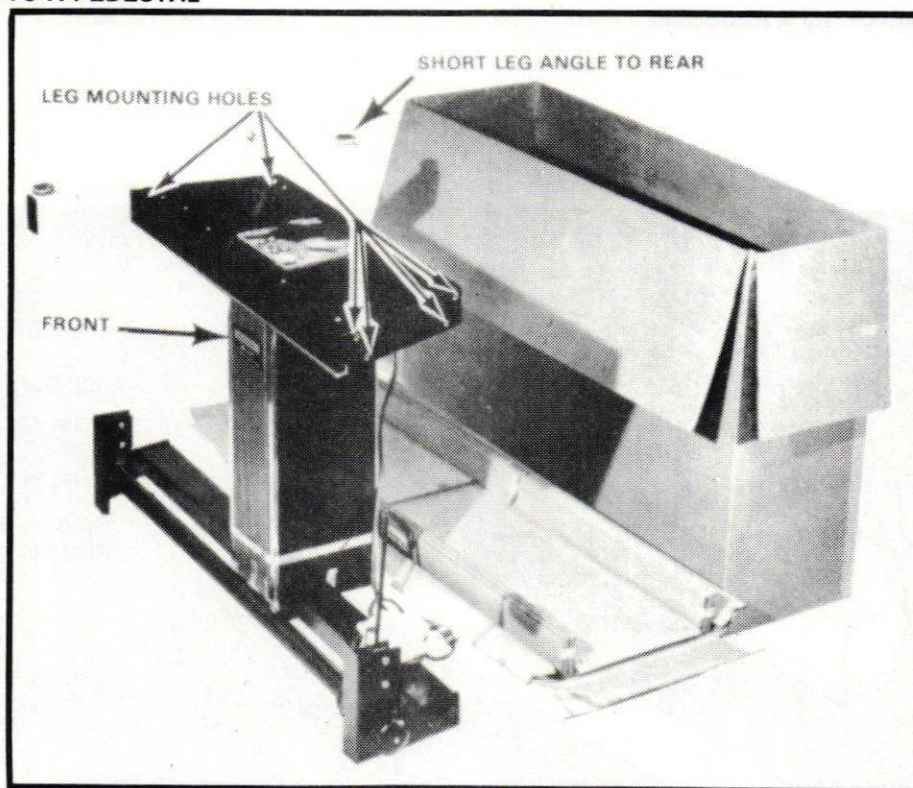

Figure E-1. Drafting Base Assembly.
5. Carefully roll the base backwards (back side is opposite to the side with the wood grain panel with nameplate) until the base rests on its cap. (Refer to Figure E-1.)
7. Fasten the legs to the base, using the 1/4" diameter bolts provided. Refer to Figure E-1 for proper positioning of legs. Legs and base are marked to indicate front of tablet.